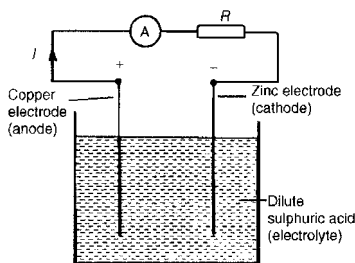

Figure 4.1
A **simple cell** comprises two dissimilar conductors (electrodes) in an electrolyte. Such a cell is shown in Fig. 4.1, comprising copper and zinc electrodes. An electric current is found to flow between the electrodes. Other possible electrode pairs exist, including zinc–lead and zinc–iron. The electrode potential (i.e. the p.d. measured between the electrodes) varies for each pair of metals. By knowing the e.m.f. of each metal with respect to some standard electrode, the e.m.f. of any pair of metals may be determined. The standard used is the hydrogen electrode. The **electrochemical series** is a way of listing elements in order of electrical potential, and Table 4.1 shows a number of elements in such a series.
If the simple cell shown in Fig. 4.1 is left connected for some time, the current I decreases fairly rapidly. This is because of the formation of a film of hydrogen bubbles on the copper anode. This effect is known as the polarisation of the cell. The hydrogen prevents full contact between the copper electrode and the electrolyte and this increases the internal resistance of the cell. The effect can be overcome by using a chemical depolarising agent or depolariser, such as potassium dichromate which removes the hydrogen bubbles as they form. This allows the cell to deliver a steady current.
- The metal that is higher in the series acts as the negative electrode, and vice-versa. For example, the zinc electrode in the cell shown in Fig. 4.1 is negative and the copper electrode is positive.